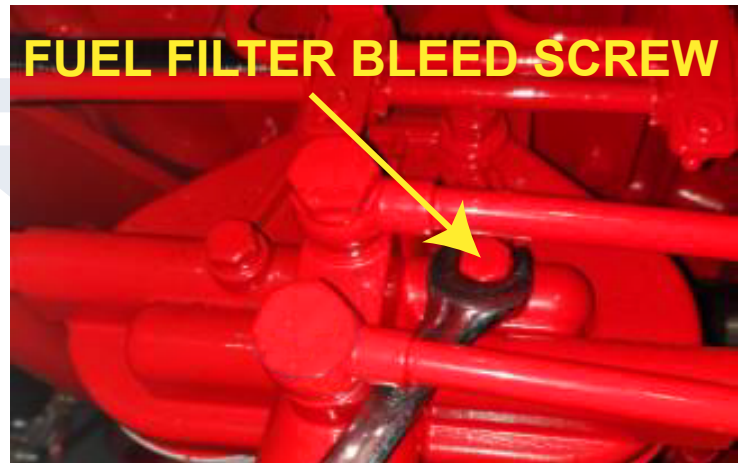

FIGURE 21 - FUEL FILTER BLEED SCREWS
- Each of the injection pumps has a bleed screw located on the top of the housing. See FIGURE 21. Loosen this vent screw.